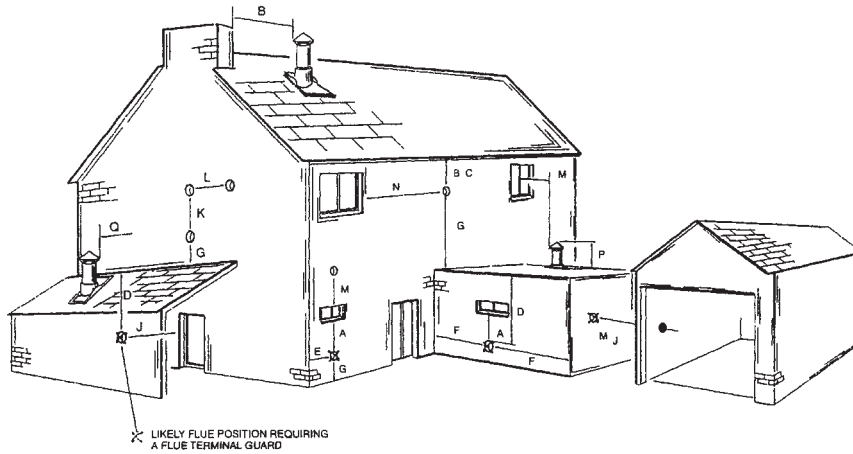

Fig 6
4.6.1 The terminal should be located where dispersal of combustion products is not impeded and with due regard for the damage or discolouration that might occur to building products in the vicinity (see fig. 6).
Minimum acceptable spacing from the terminal to obstructions and ventilation opening are specified in Fig. 6.